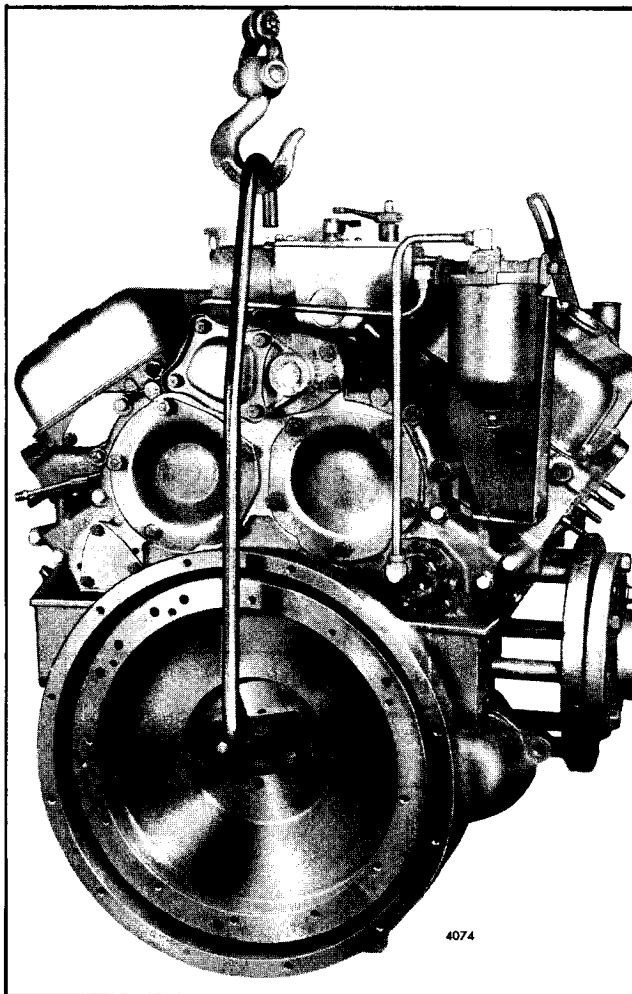

Fig. 1 - Removing Flywheel
- b. Attach flywheel lifting tool J 6361-01 to the flywheel with two 3/8" -16 bolts of suitable length as shown in Fig. 1 or use tool J 25026.